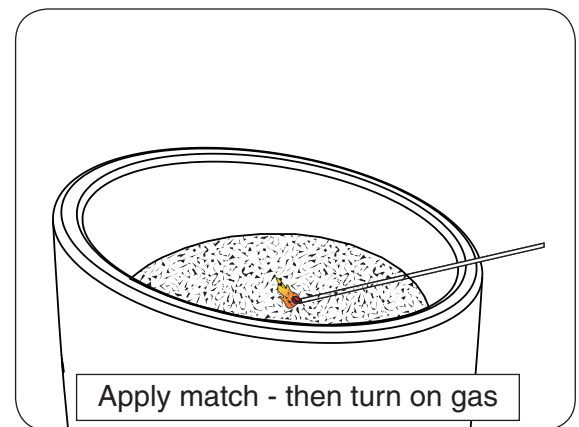

Fig. 21-1
3. Lay a lighted match on the surface of the decorative media near the burner (**do not hold the match in your hand**) (Fig. 21-1).